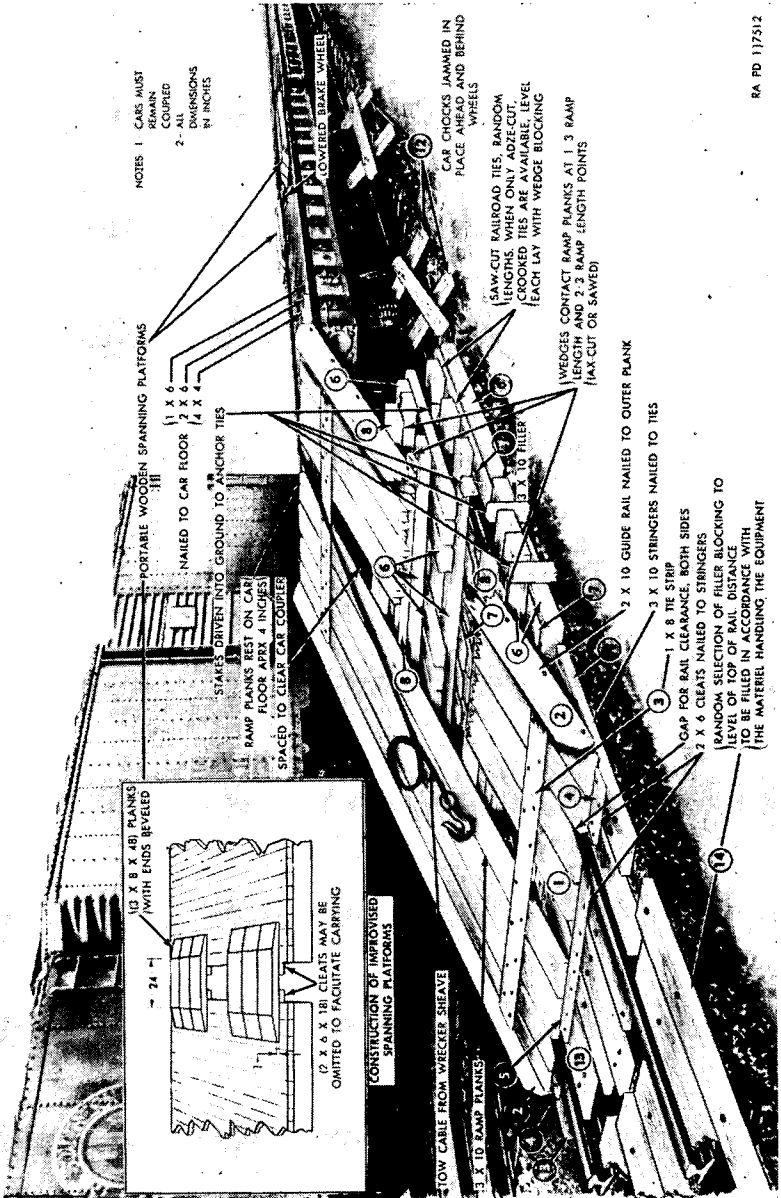

Figure 165. Construction of improvised loading ramp and spanning platforms.
- (b) When unboxed vehicles must be loaded from ground level, a ramp may be improvised ((3) below) by borrowing railroad ties normally found stacked in railroad yards and by procuring necessary planking. An end ramp is shown in place in figure 165.
- (e) After the first vehicle is loaded on the flatcar, additional vehicles may be similarly hauled aboard by passing the towing cable beneath the loaded vehicle. When a train of flatcars is being loaded, steel or wooden spanning platforms or bridges are used to cover the gap between cars. Flatcar brake wheels must first be lowered to floor level to permit passage. A pair of improvised spanning platforms are shown in place in figure 165. These spanning platforms are moved along the train by hand as the vehicle advances.
- (b) Drop-end gondola cars may be loaded exactly as described for flatcars ((1) above). Height of fixed sides is immaterial. Vehicles may progress through a gondola car by passing over the two inwardly-dropped ends and over spanning platforms. Vehicles selected to remain in a gondola car are first moved to the *closed* end of the car, then spread out for blocking after the remaining end is closed and latched.
- (a) A ramp for end-loading of vehicles on open top freight cars may be improvised when no permanent ramps or hoisting facilities are available. A ramp suitable for the loading of most ordnance items is shown in figures 165 and 166. For loading the 6-ton 6 x 6 truck, the width of the ramp may be reduced to two double-plank runways, each cleated together. Length of planking must be determined with consideration to underchassis clearance, in order to clear the hump at upper end of ramp.